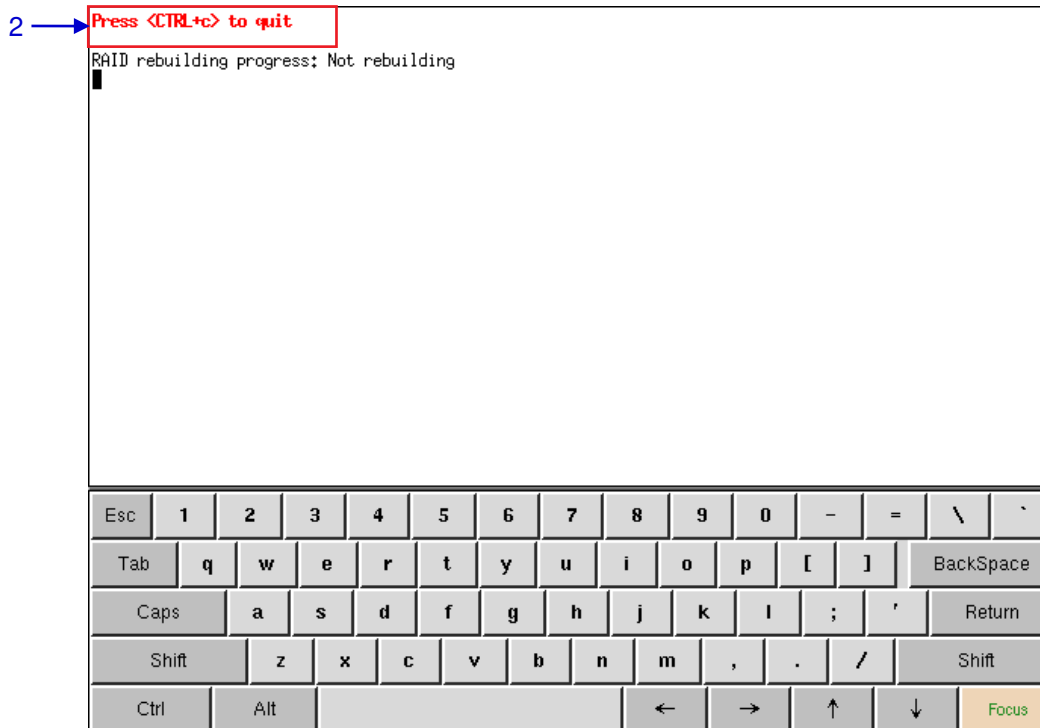

Figure 85 Status of active RAID in the IMB.
- 1 Select **Monitor RAID Status**. When the RAID is rebuilding, it displays the rebuilding progress as normal function to the previous RAID setup. A new window appears as seen in **Figure 85**.